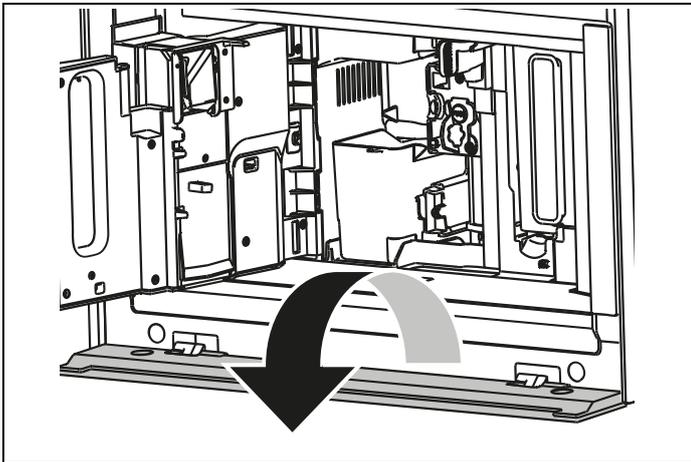
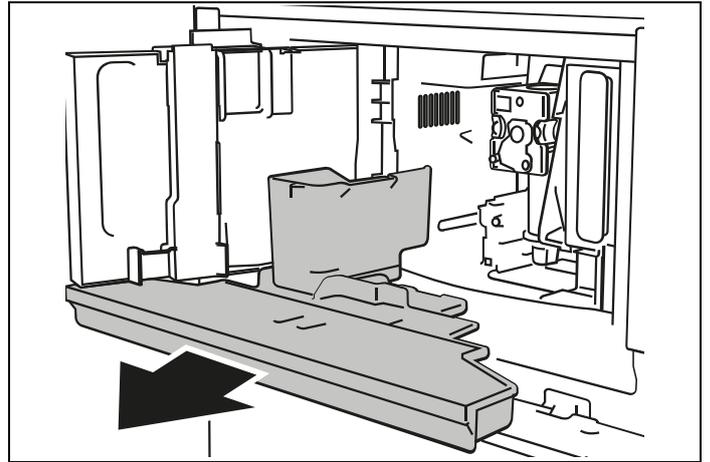

Fig. 42
Fig. 43
1) Open the bottom door by rotating it downwards (Fig. 42).
3) Remove the drip tray (A14) (Fig. 43), empty and clean it.
- Open the door (Fig. 42). Remove the drip tray and coffee grounds container (**A4**) (Fig. 43);
- 3) Remove the drip tray and waste coffee container (Fig. 43).
- **Empty grounds container** (Fig. 43) : remove, empty and replace the drip tray **(A14)** and the ground container **(A4)**. Press  **NEXT**;